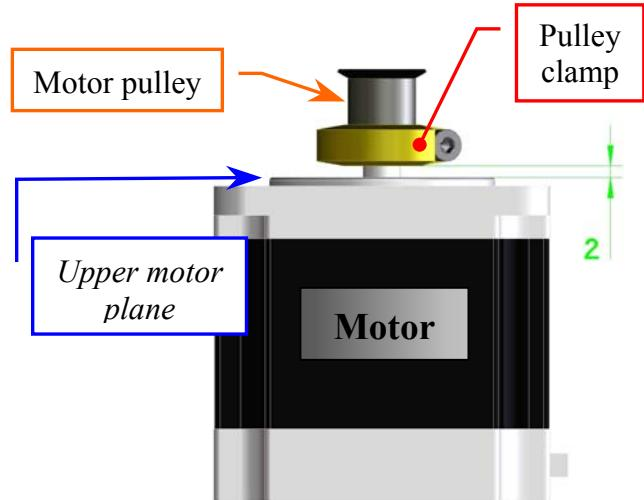

Fig. 86 – Plate Motor (scheme)
7. Insert the pulley clamp completely on the motor pulley (Fig. 86) and then insert all two on the motor shaft.
8. Position the motor pulley to **2.00 mm** with respect to upper motor plane (Fig. 86), then tighten the pulley clamp screw (Fig. 84).
7. Insert the pulley clamp completely on the motor pulley (**Fig. 86**) and then insert all two on the motor shaft.
8. Position the motor pulley to **2.00 mm** with respect to upper motor plane (**Fig. 86**), then tighten the pulley clamp screw.